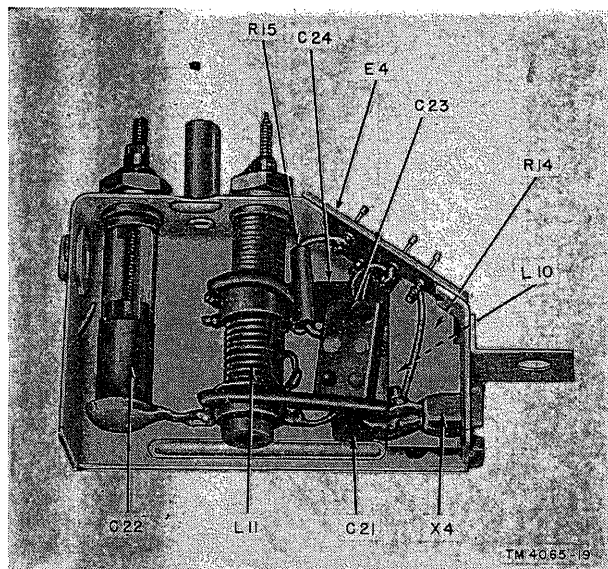

Figure 39. First rf box, inside view.
a. Removal. Remove the tube that is mounted on the box assembly as directed in paragraph 61c. Unsolder the leads on the terminal board of the box. If the transmitter tube is in the way, first remove the shield by taking out the two screws that hold it to the chassis. Then pull the tube straight out from the socket. Remove the top and two side screws of the box, one right and one left. The box can now be lifted out of the chassis. Inside views of the boxes are shown on figures 39 through 44.